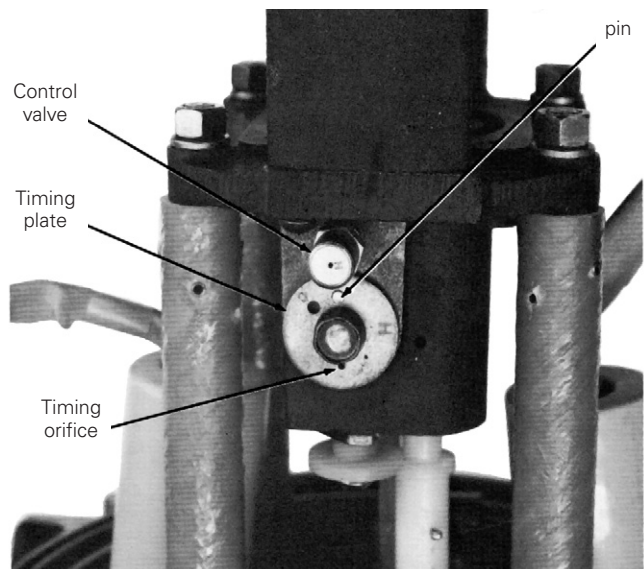

Figure 25. Indexing of timing plate
5. Manually open and close recloser three times if it is set for four operations to lockout. Observe trip rod - end of trip rod should touch lockout latch as shown in Figure 25.